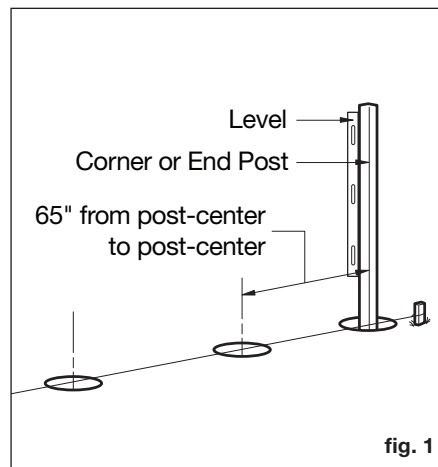

fig. 1
Check local regulations for specific building requirements. Mark the posthole locations 65" apart along a string line (measuring post-center to post-center, fig 1).
STEP 1 – Install first post with concrete (See “Digging postholes” section and figs. 1 & 2).